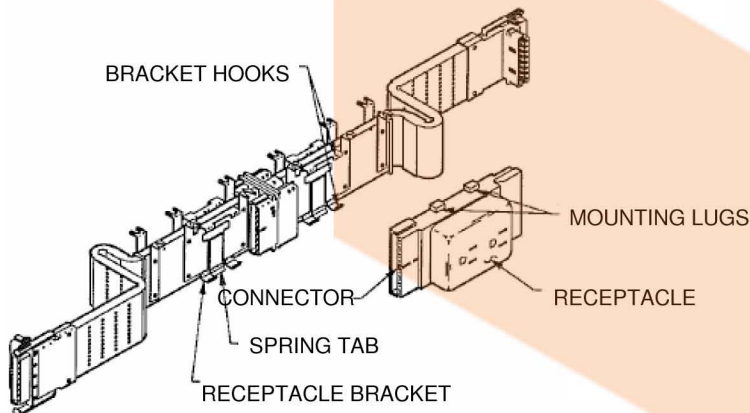

FIGURE 17
USE THE FLEXIBLE CONNECTORS SUPPLIED WITH EACH PANEL TO CONNECT THE ELECTRICAL DISTRIBUTION ASSEMBLY IN THE PANEL BASE. THE FLEXIBLE CONNECTOR MAY BE USED TO MAKE CONNECTIONS ACROSS TWO-WAY, THREE-WAY OR FOUR-WAY PANEL JUNCTIONS. SEE FIGURES 17 THROUGH 19 FOR EXAMPLES OF INSTALLATIONS.
1. PLACE THE RECEPTACLE INTO THE BRACKET TO ONE SIDE OF THE BRACKET HOOKS. SEE FIG. 17.
2. SLIDE RECEPTACLE AWAY FROM THE ELECTRICAL DISTRIBUTION ASSEMBLY UNTIL THE MOUNTING LUGS CLEAR THE BRACKET HOOKS. THE RECEPTACLE CAN NOW BE PULLED AWAY FROM THE PANEL. SEE FIGURES 17 AND 18.